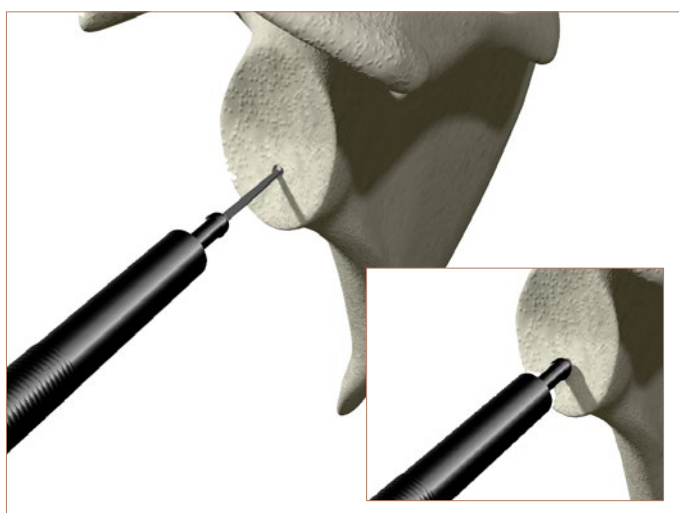

Figure 23
2. If the 3.2mm Pilot Wire is removed, place the Depth Gauge into the prepared Center Screw hole and read the corresponding measurement from the Depth Gauge [Figure 23].
- ▶ When utilizing the Depth Gauge be sure to engage the far cortex with the hook of the Depth Gauge and place the tip of the instrument against the glenoid face before reading the measurement [Figure 23 inset].